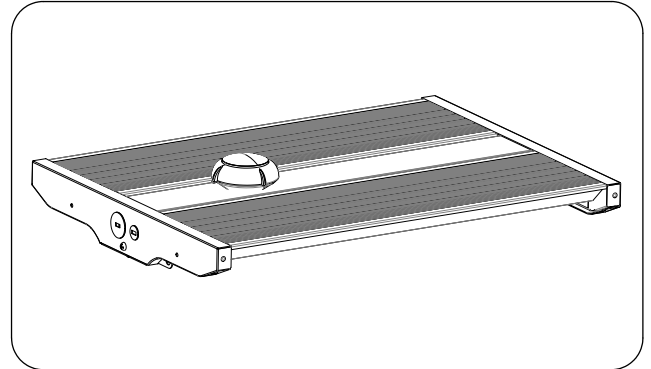

Figure 4
Step 3:Install the approved sensor and make sure it is securely fit. (Figure 4)